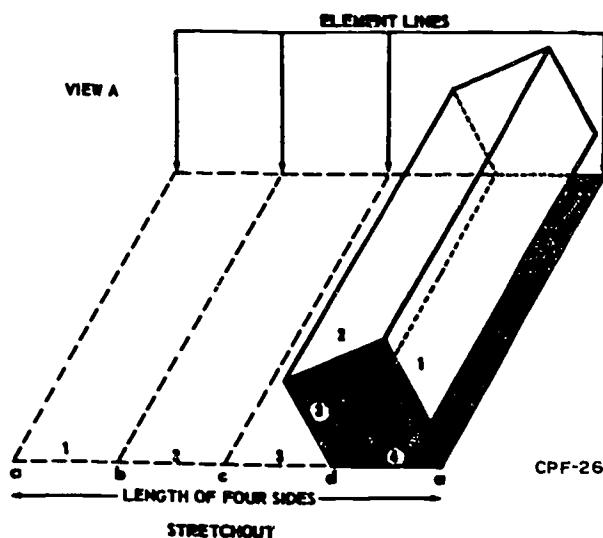
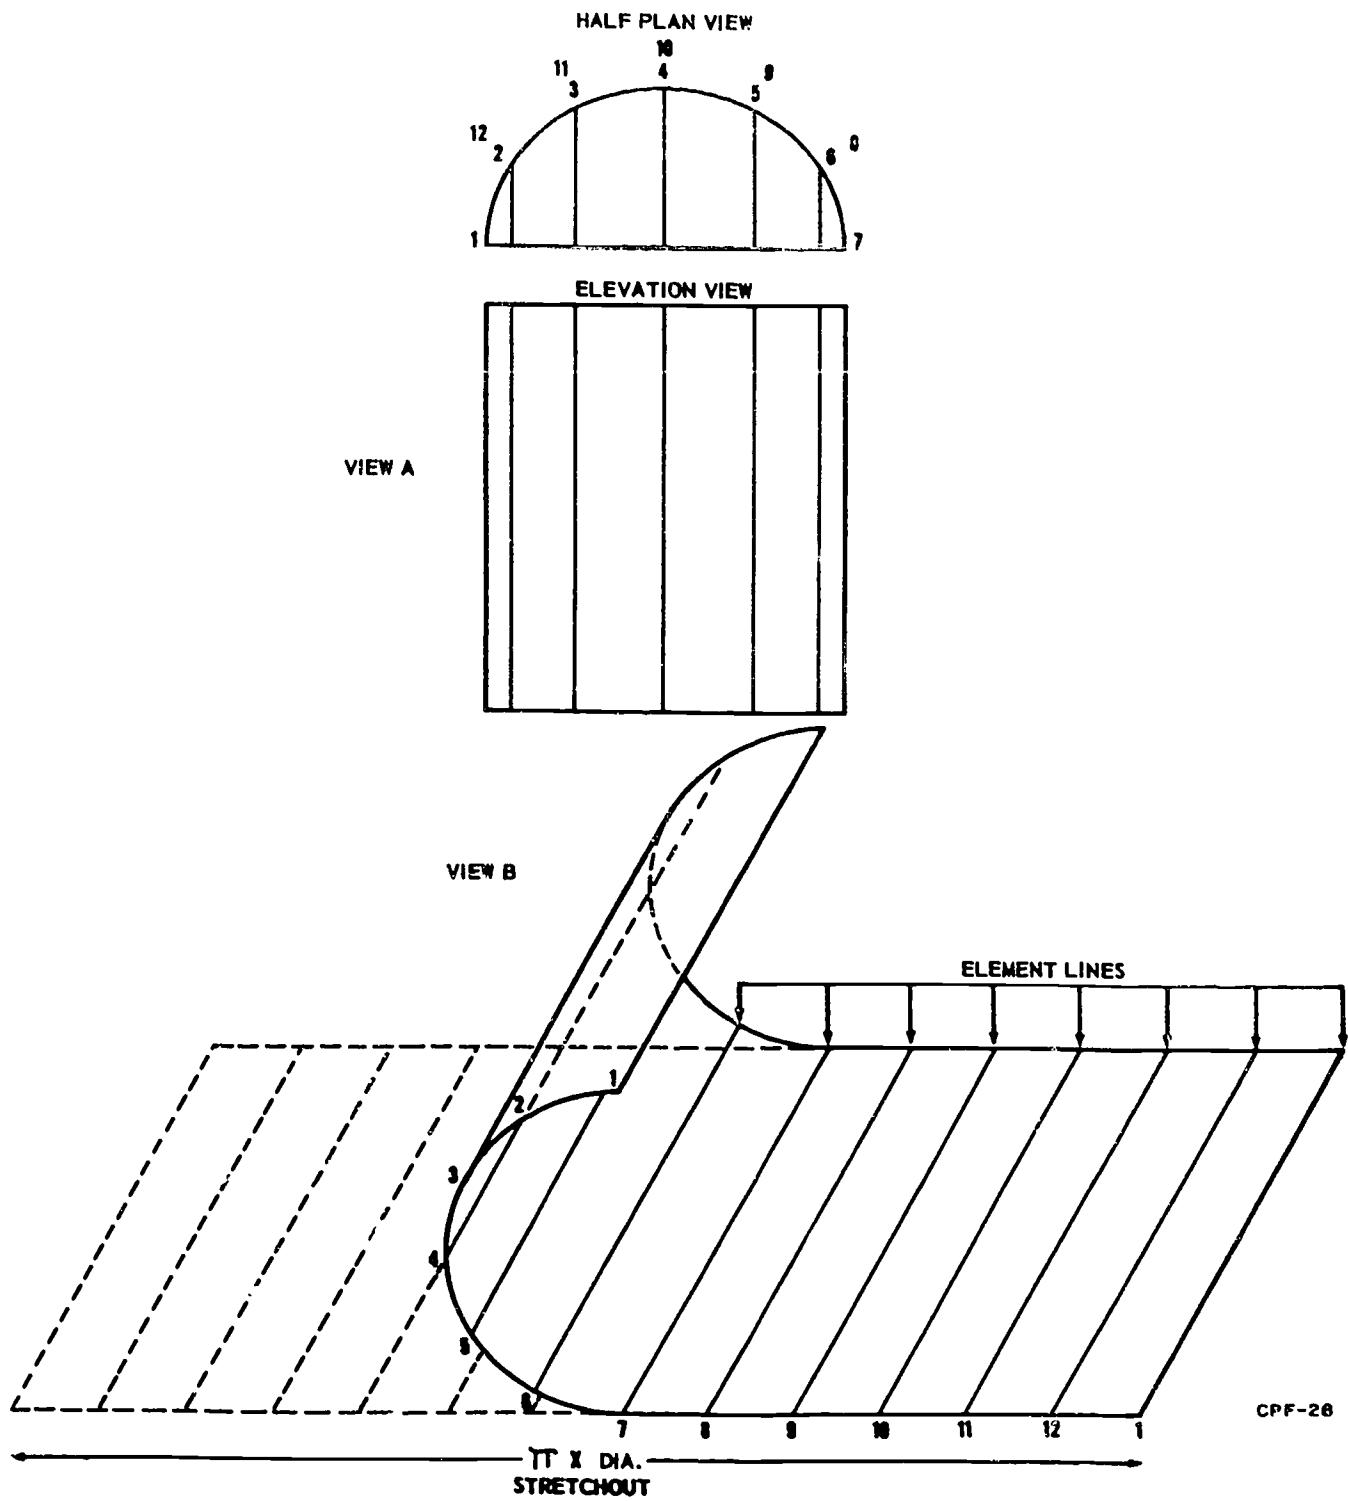

Figure 1-63. Parallel line pattern development for a square duct.
Figure 1-64. Parallel line pattern development for a cylinder.
**Flat Pattern Layouts.** Flat pattern layouts are drawings that show the shape of components in the flat or stretched out position. You studied many kinds of figures such as triangles, squares, rectangles, prisms, cones, and pyramids. Now in figure 1-62, view A, you can see a section of a rectangular sheet metal duct. View B shows a flat pattern or stretchout of the same duct. Note that the stretchout is a series of rectangles. In figure 1-63, you can see the stretchout of a square duct. In figure 1-64, view A, you can see the half plan and elevation views of a round duct, and in view B the stretchout of a round duct (cylinder).
**Parallel Line Layout Method.** The parallel line method of layout is used to develop patterns for components that have parallel sides. True lengths of elements play an important part in parallel line development. Element lines, as shown in figures 1-63 and 1-64, are equally spaced lines used to layout the pattern. In parallel line development, all element lines are parallel or perpendicular to each other. The length of the duct section (or true length) is indicated by the length of the element lines. True length does not include the seam allowances.
Figure 1-63 shows the stretchout of a square duct. The parallel line layout method is used to develop square duct patterns the same as those for rectangular ducts. The stretchout length is the perimeter or the sum of the four sides: 1, 2, 3, and 4. The length of the element lines is determined by the true length of the duct. To form the stretchout into a square duct, the element lines b, c, and d are broken at 90° angles.
View A in figure 1-64 includes both the plan view and elevation views for a round duct (cylinder). The half plan shows part of the cylinder as you would see it looking down from the top. The half plan arc is divided into 12 equal parts, resulting in 13 element lines. Notice how the half-plan view is used to represent a whole-plan view and is divided into half the spaces of the plan view. In view B of figure 1-64, which is the pattern for view A, notice that the stretchout is divided into 12 equal parts, and the element lines are parallel to each other. Remember that the element
lines are the true length of the duct you are laying out. View B also represents view A as it would look stretched out in a flat pattern. To determine the length of the stretchout line for view B, use the circumference formula you learned in behavioral objective 206 ( $\pi \times d$ ): multiply the diameter of the duct by 3.1416. The stretchout line is divided into equal parts; in this case, we will use 12 parts. This pattern is formed by rolling, as shown in view B of figure 1-64.